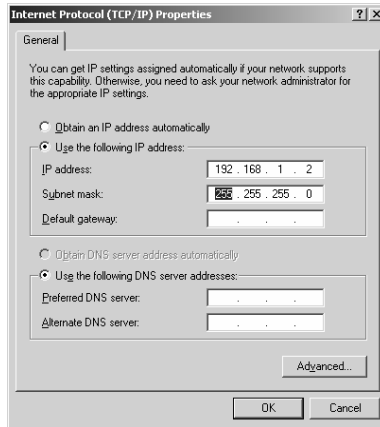

Figure 5: Internet Protocol (TCP/IP) Properties Window
6. Select Use the following IP Address, and fill in the details as shown in *Figure 5*.